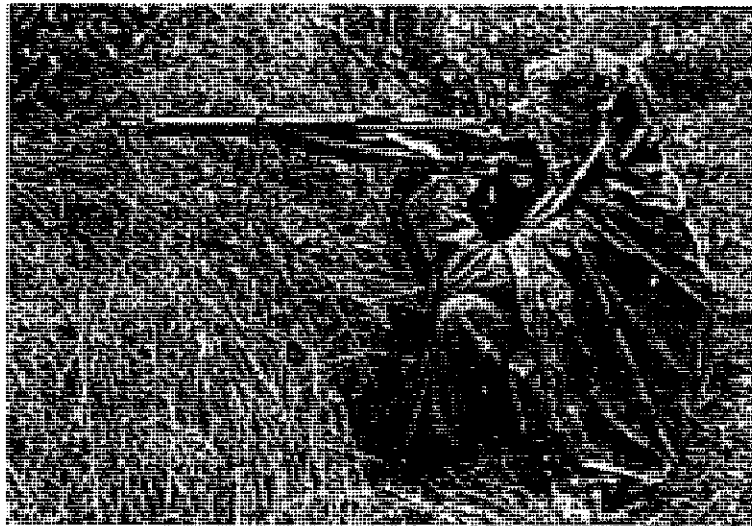

Fig. 47 String Position
- 65 In order to make a good shot, the shooter should **take a shooting position** most suited to the terrain. The most used shooting positions are the prone and standing positions; over a slope or berm and in the sitting position. (Fig. 47)